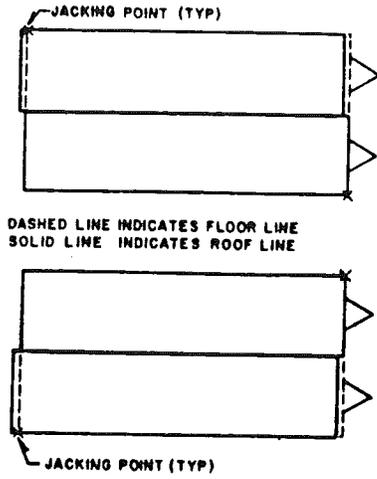
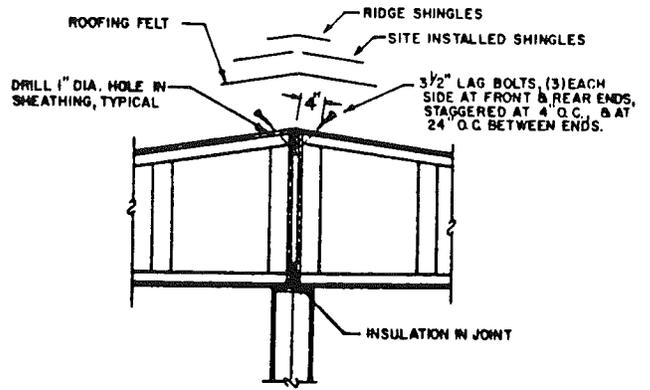

FIG. 7
FIG. 8
2. The ceiling panels and end walls on each half must align with each other inside the home. If they are not, they may be by raising the opposite corner on that half as shown in fig. 7. This will move the ceiling forward and into position. When this is accomplished, lag each end of the ridge beam with three 4" lag screws 3" o.c. as shown in fig. 8.